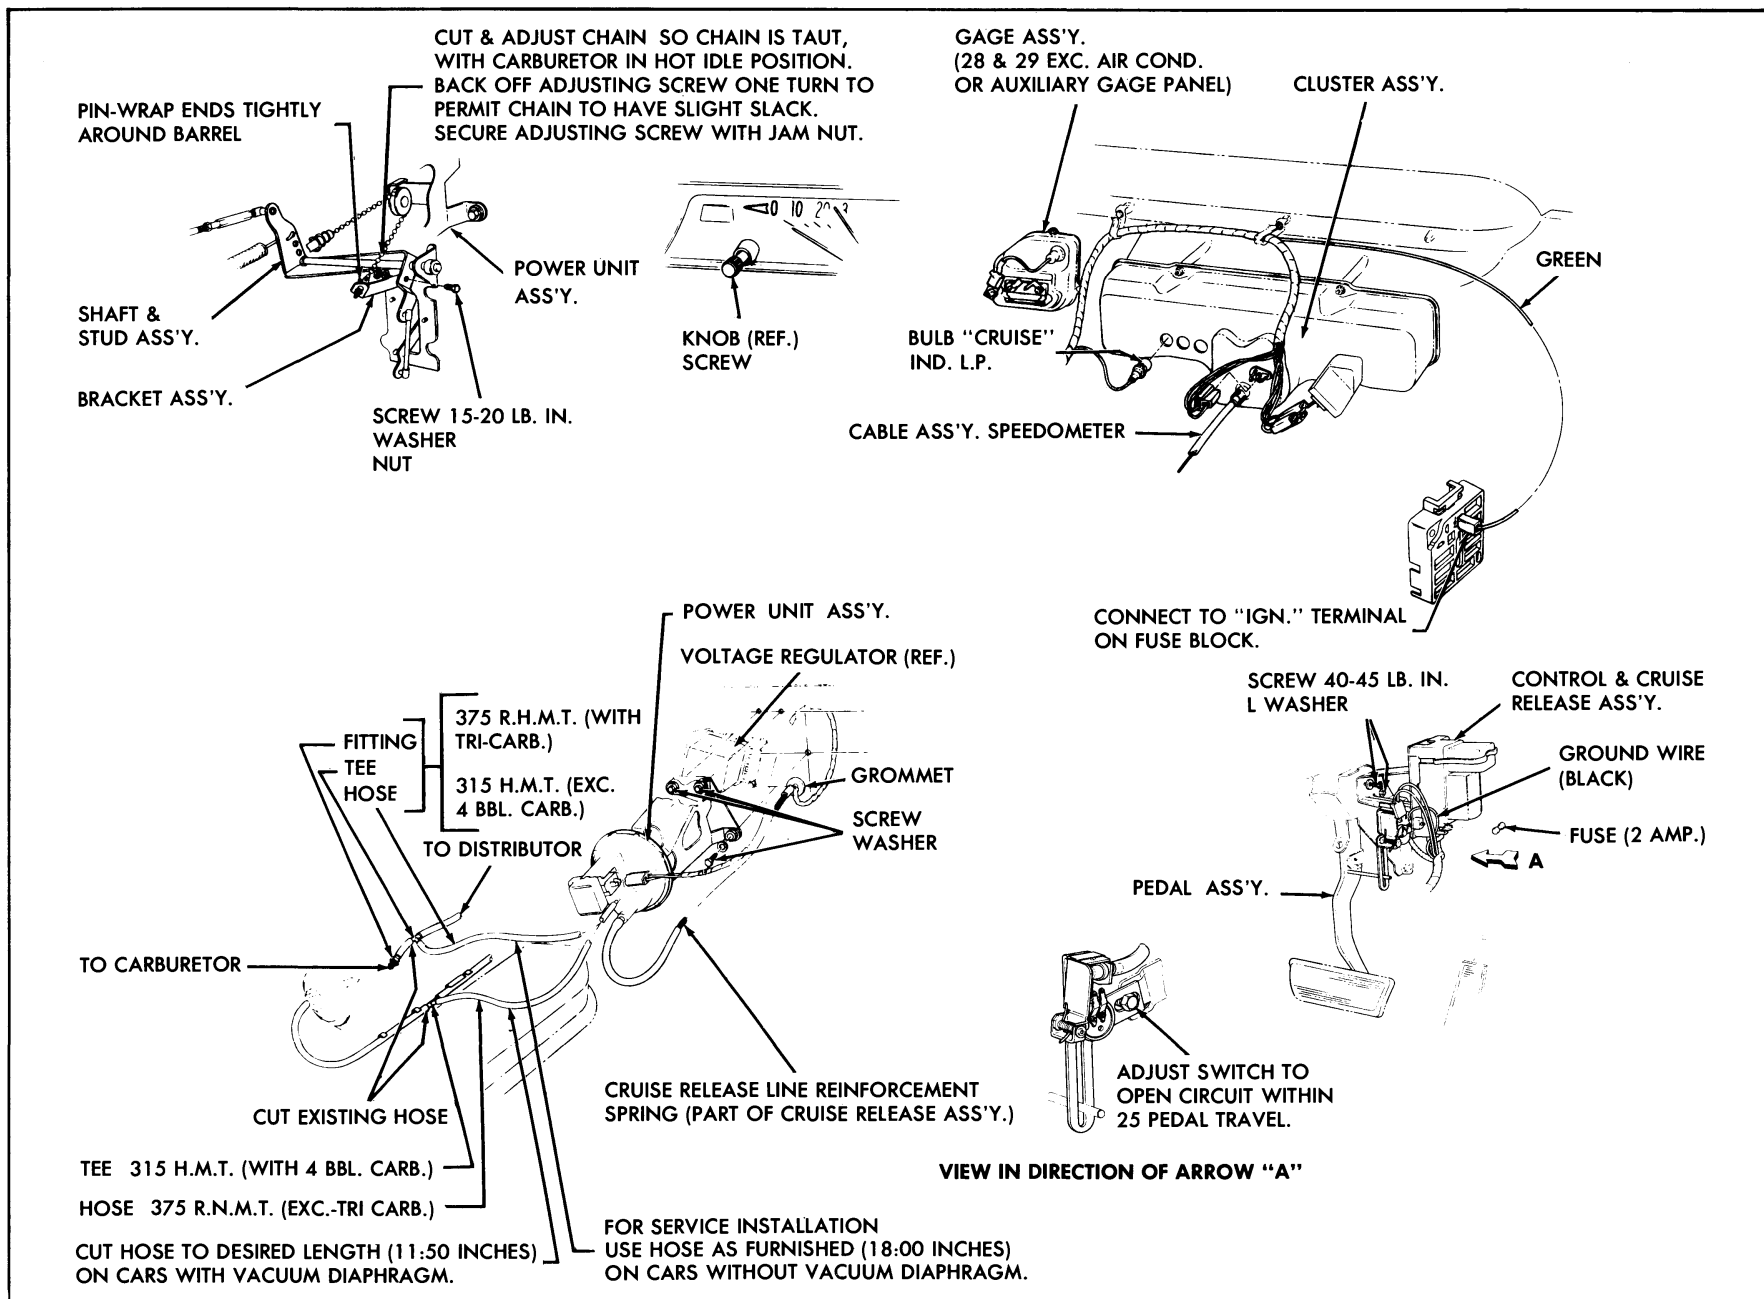

Fig. 12-1 Electro-Cruise Components
The Electro-Cruise is an electronic-pneumatic system which consists of: a power unit mounted on the cowl in the engine compartment and connected to the throttle linkage through a ball chain; an amplifier and relay control assembly mounted on the brake pedal support arm bracket; a speed transducer which is an integral part of the speedometer; an engagement switch and a cruise lamp which are an integral part of the instrument cluster; and a cruise release brake switch located on the brake pedal arm support bracket. Fig. 12-1.
1. Loosen the jam nut on the threaded stud that is attached to the end of the ball chain. Fig. 12-1.